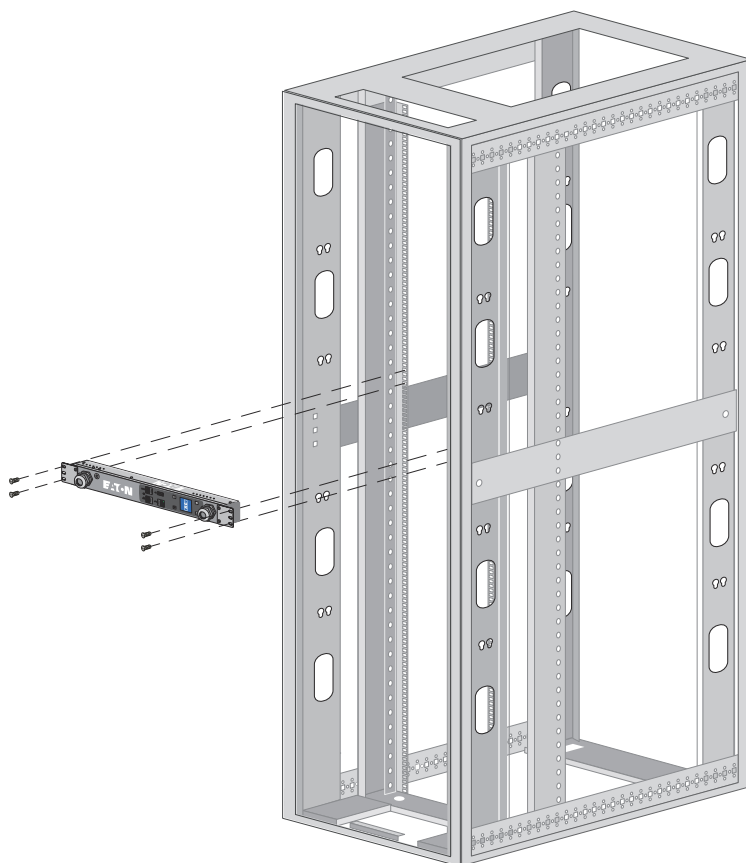

Figure 20. Installing Horizontal Models
3. **For all other racks.** Insert and tighten two M6 screws through the ears on each side of the ePDU (see Figure 20).